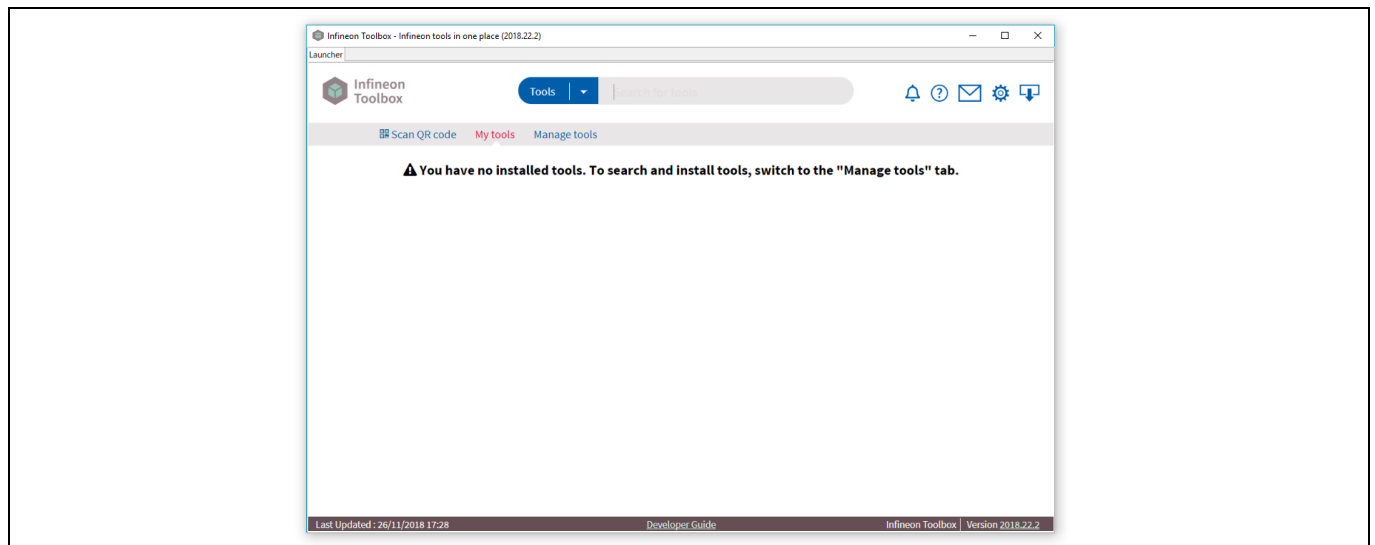

Figure 3 Infineon Toolbox tools launcher
- Run the Infineon Toolbox by double-clicking on the Infineon Toolbox icon on your Windows desktop. The program starts under the **My tools** tab, as shown in Figure 3.